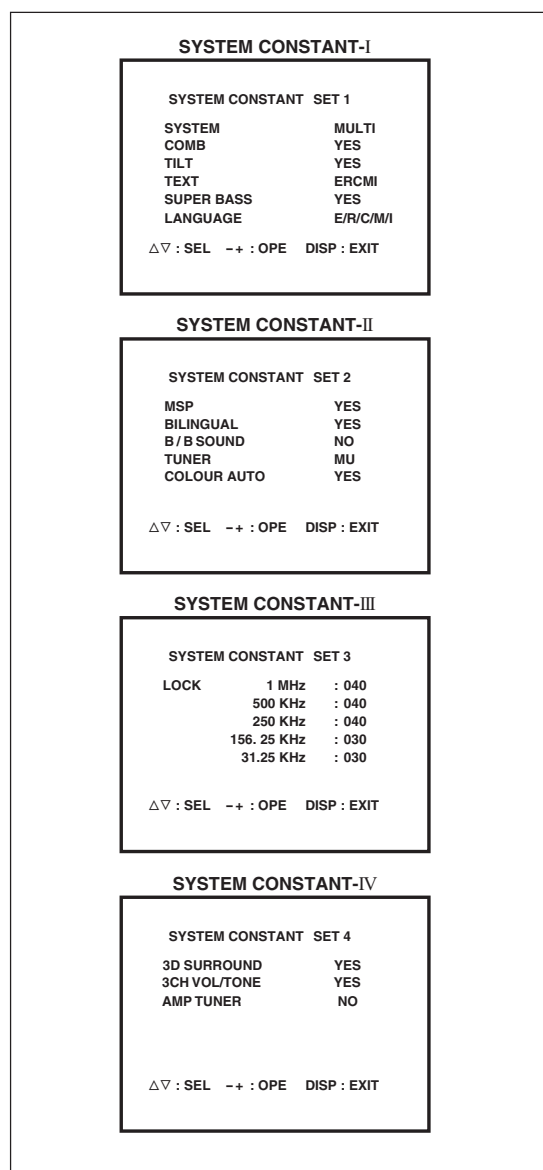

Fig. 2
1. While pushing down the 2 claws marked (E) as shown in Fig. 2 and pull out the Control base in the direction of arrow marked (F) as shown in Fig. 2, the control base can be removed.
2) In the SERVICE MENU, press the DISPLAY key and PICTURE MODE key simultaneously. Then, the SYSTEM CONSTANT SET screen will be displayed.(See Fig.2.)